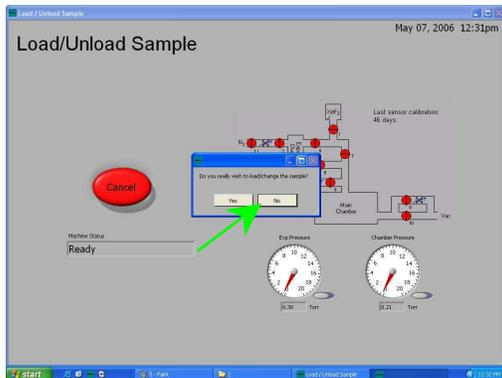

Figure 2.5
4. Under the Load/Unload Sample window, clicks “Yes” in the “Do you wish to load/change the sample” dialog box; the user can then prepare the sample for loading inside the chamber. (Figure 2.5)